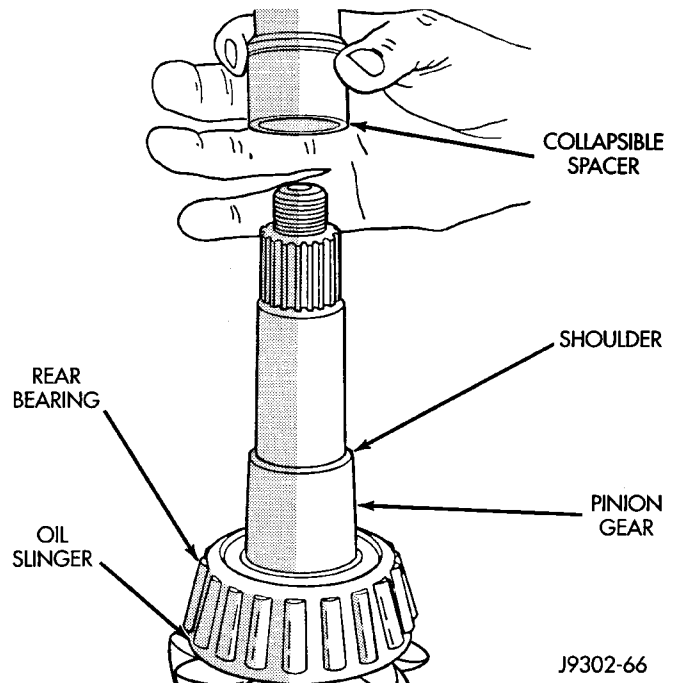

Fig. 51 Collapsible Preload Spacer
(7) Install a new collapsible preload spacer on pinion shaft and install pinion gear in housing (Fig. 51).